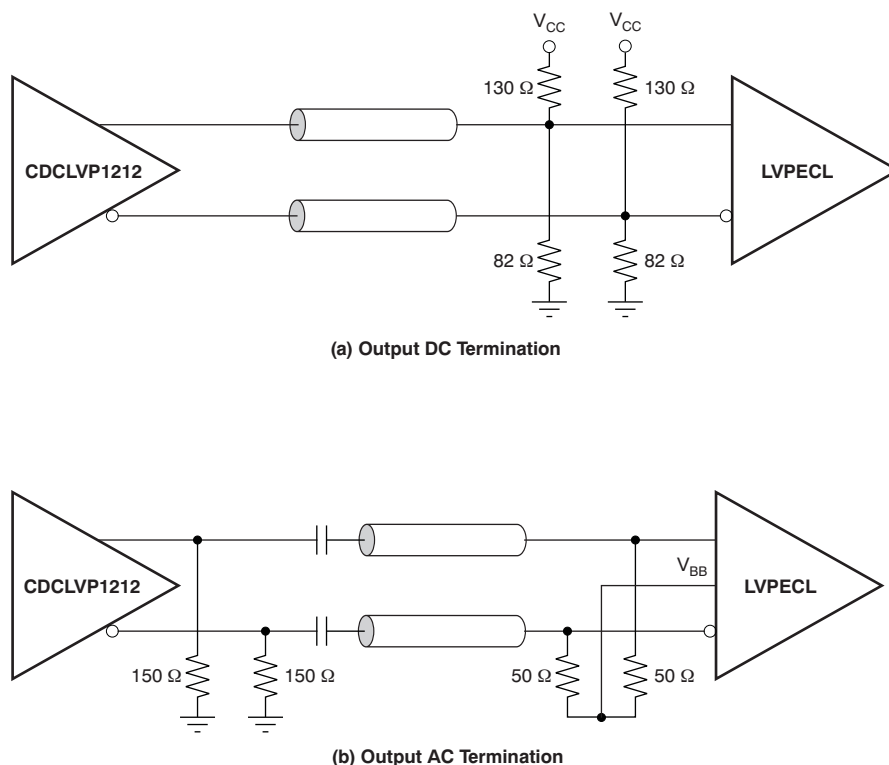

Figure 13. LVPECL Output DC and AC Termination For $V_{CC} = 3.3\text{ V}$
The CDCLVP1212 uses an open emitter follower stage for its LVPECL outputs. Therefore, proper output biasing and termination are required to ensure correct operation of the device and to maximize output signal integrity. The proper termination for LVPECL outputs is a $50\ \Omega$ to $(V_{CC} - 2)$ V, but this DC voltage is not readily available on PCB. Therefore, a Thevenin equivalent circuit is worked out for the LVPECL termination in both direct-coupled (DC) and AC-coupled configurations. These configurations are shown in Figure 12 (a and b) for $V_{CC} = 2.5$ V and Figure 13 (a and b) for $V_{CC} = 3.3$ V, respectively. It is recommended to place all resistive components close to either the driver end or the receiver end. If the supply voltage for the driver and receiver is different, AC coupling is required.
The CDCLVP1212 is an open emitter for LVPECL outputs. Therefore, proper biasing and termination are required to ensure correct operation of the device and to minimize signal integrity. The proper termination for LVPECL outputs is a $50\ \Omega$ to $(V_{CC} - 2)$ V, but this DC voltage is not readily available on PCB. Therefore, a Thevenin equivalent circuit is worked out for the LVPECL termination in both direct-coupled (DC) and AC-coupled configurations. These configurations are shown in Figure 12 (a and b) for $V_{CC} = 2.5$ V and Figure 13 (a and b) for $V_{CC} = 3.3$ V, respectively. It is recommended to place all resistive components close to either the driver end or the receiver end. If the supply voltage for the driver and receiver is different, AC coupling is required.